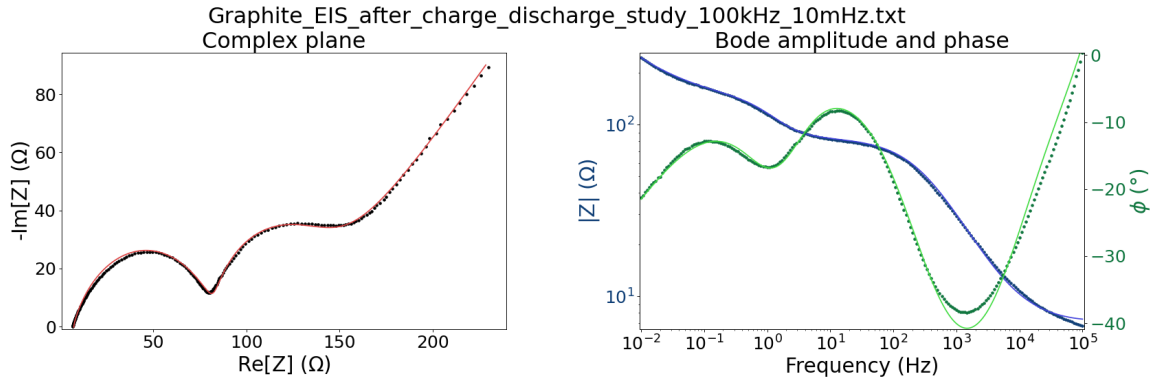

Figure 32: C||Li impedance spectrum before moving on to advanced refinement.
13. It now appears that R_2 is too large, so it should be decreased. Then, n_2 should be increased to raise the the semicircle without widening it. Finally, n_0 and Q_0 should be tweaked to correct the low-frequency part of the spectrum. This leads to Figure 32. The parameters are in Figure 33.